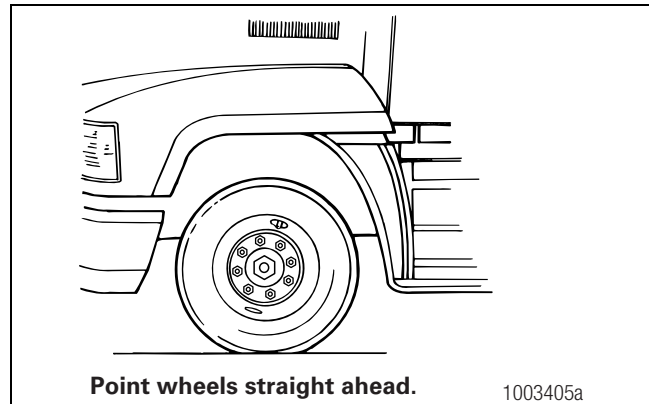

Figure 6.25
2. Turn the vehicle wheels to the STRAIGHT position. Figure 6.25.